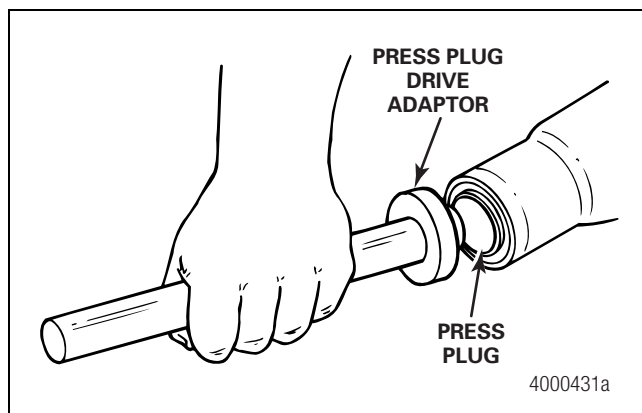

Figure 2.24
18. Insert the press plug drive adaptor into the press plug. Figure 2.24.